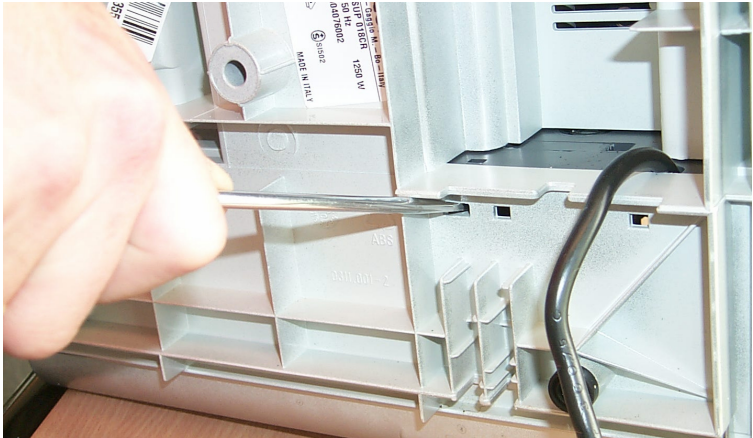

Fig. 5
- a) Release the base plate from the underside of the machine using a screw driver (see Fig. 5) and remove it from the housing.